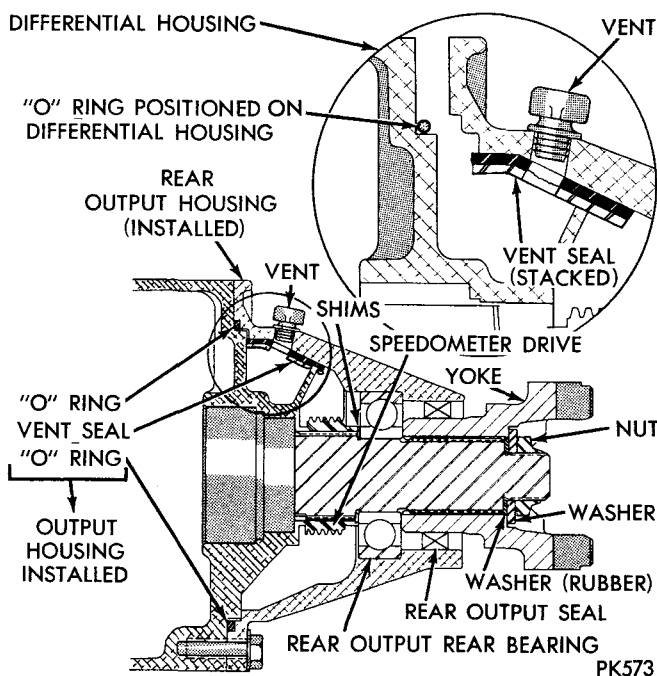
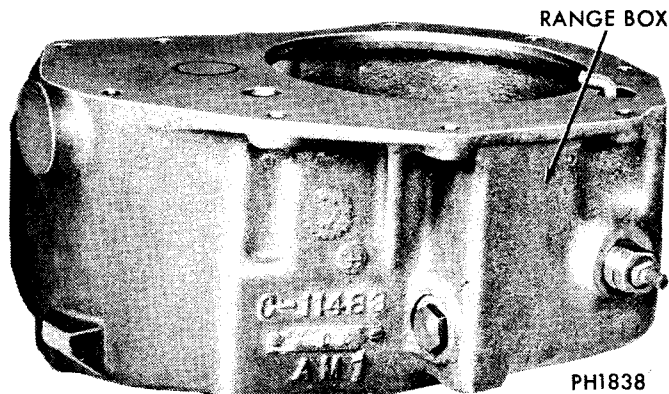
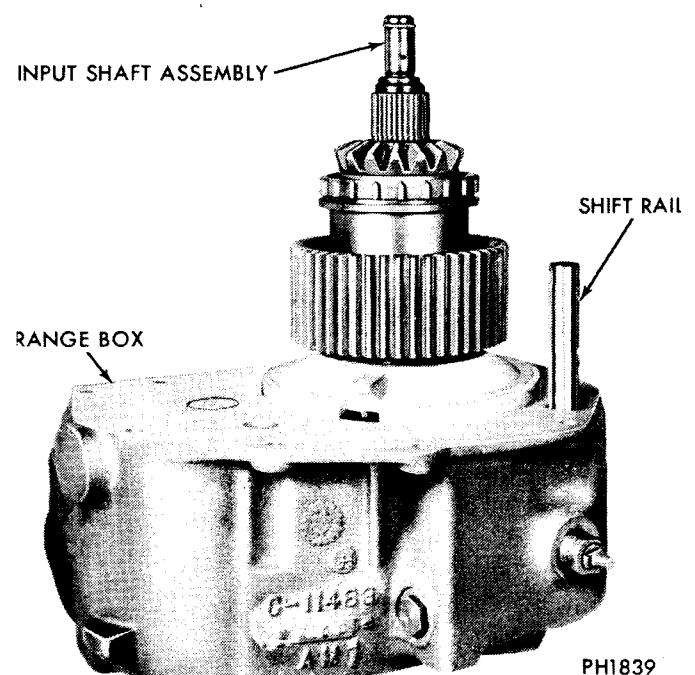

Fig. 23—Rear Output Housing Assembly
Fig. 24—Range Box Positioned for Assembly
Fig. 25—Shift Rail in Installed Position
(4) Install two new seal(s) on inside surface of output housing, centering the holes at vent opening (Fig. 23) (Stack the two seals).
(5) Position sealing "O" Ring on differential housing as shown (Fig. 23).
(1) Place range box on blocks with front (input) side down (Fig. 23).
(2) Position gasket on range box (Range Selector Housing).
(3) Install lockout clutch and drive sprocket assembly on input shaft assembly. **A 2 inch band type clamp or other similar device may be used to retain loose bearings.**
(4) Install input shaft, lockout clutch and drive sprocket assembly into range box, aligning tab on bearing retainer with notch in gasket.
(5) Connect lockout clutch shift rail to the connector link and position rail in housing bore (Fig. 24). Rotate shifter shaft while lowering shift rail into housing, to prevent the link and rail from being disconnected.
(6) Install drive chain in chain housing, positioning the chain around outer wall of housing.
(7) Install chain housing on range box (Fig. 25), engaging shift rail channel of housing to shift rail. Position chain on input drive sprocket.
(8) Install front output sprocket in case, engaging drive chain to sprocket. Rotate clutch drive gear to aid in positioning chain on drive sprocket.
(9) Install shift fork on clutch assembly and shift rail, then push clutch assembly fully into drive sprocket. Install roll pin retaining shift fork to shift rail.
(10) Install outer retainer ring on front output shaft bearing and install bearing into housing bore.
(11) Install front output shaft bearing retainer, gasket and retaining bolts.
(12) Install front output shaft seal, yoke, dust shield, rubber seal, washer and retaining nut. Tap dust shield back into place after installing bolts in flange.
(13) Install front output shaft rear bearing retainer, gasket and retaining bolts. **If rear bearing was removed, position new bearing to outside face of cover and press into cover until flush with opening.**
(14) Install differential carrier assembly on input shaft. (Carrier bolt head toward rear of shaft.)
(15) Install rear output housing assembly, gasket and retaining bolts (Load bearings in pinion shaft).
(16) With yoke nut at least .06 loose, push or tap end of rear output shaft into unit. This will put differential into close mesh for next check. Check rear output shaft end play as follows: